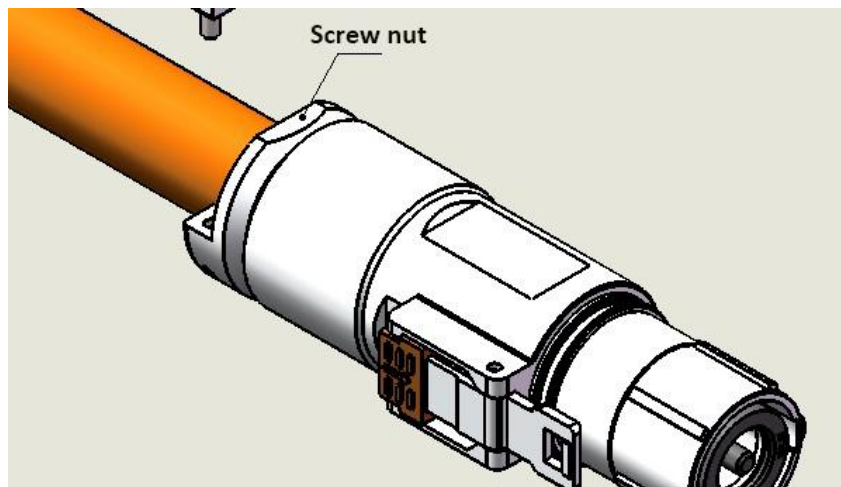

Figure 10
3.1.6 The assembled cable and the plug shell are assembled together, and the nut locking torque is 5-8N.m, as shown in Figure 10.